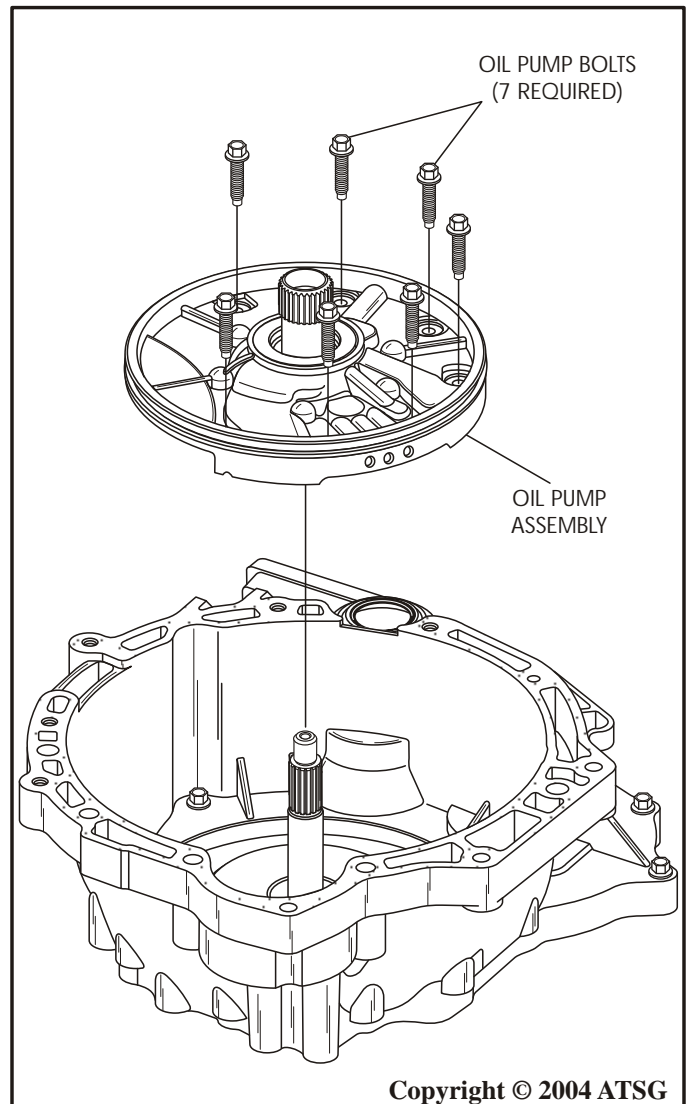

Figure 21
3. Remove the oil pump assembly from transaxle, as shown in Figure 21, and set aside for the component rebuild section.